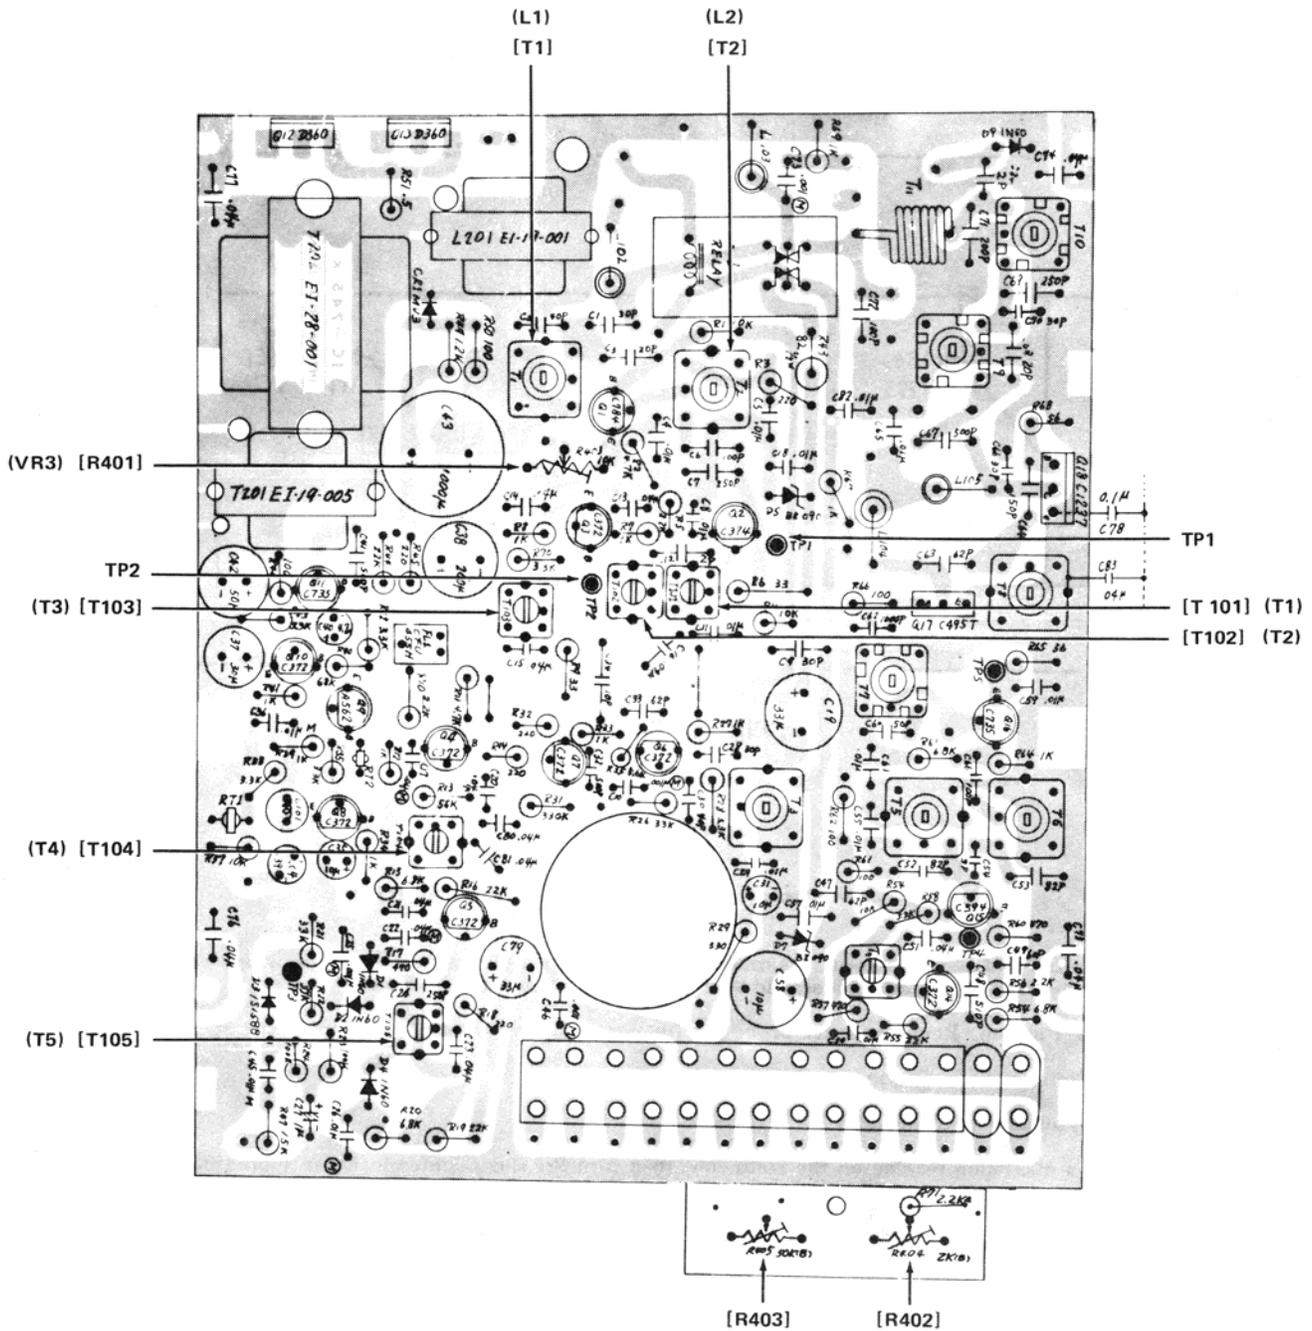

Figure 4-3 Test Point and Adjustment Locations for Receiver Alignment
Refer to Figure 4-3 for adjustment and test point locations.
This procedure consists of adjusting R402 and R403. Since the meter provides a dual function ("S" meter and RF meter), the setting must satisfy both. See Figure 4-3 for trimmer locations.
5. Adjust R401 to the point where the 1 kHz tone just starts to break up. See Figure 4-3.